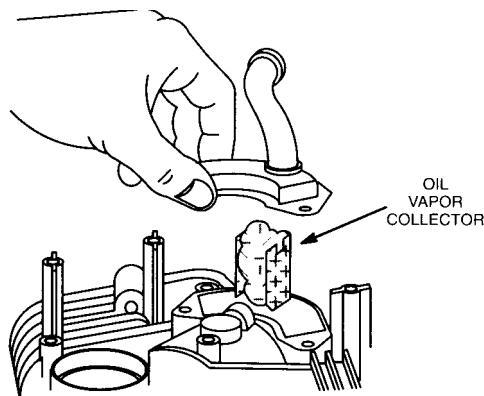

Fig. 9 - Install Breather
2. Install breather with new gasket, Fig. 9.